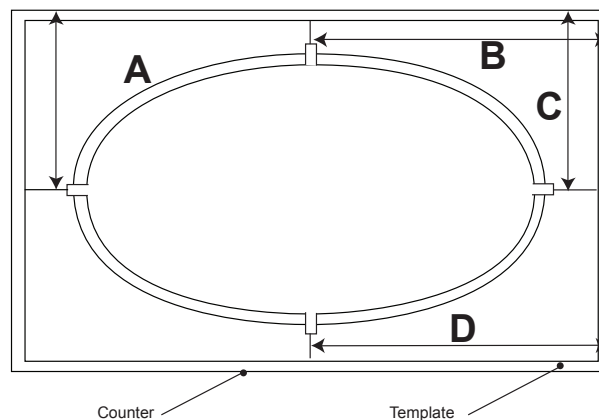

Figure 13 - Distance Measurement
- Measure the distance from the wall, or other fixed point to the center lines (Figure 13).